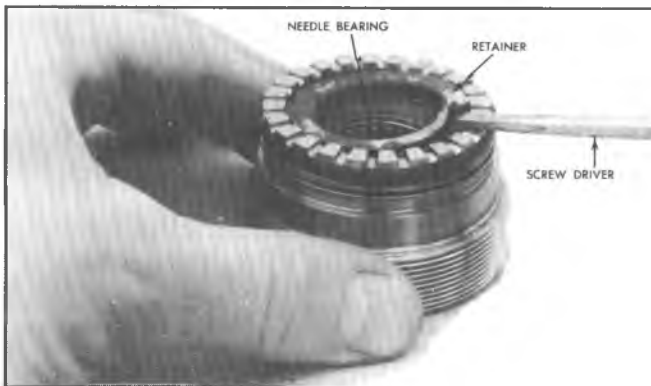

Fig. 4--Removing Retainer
2. If the thrust bearing ONLY is to be removed, pry the thrust bearing retainer at the two raised areas with a small screwdriver (Fig. 4). Remove the spacer, thrust bearing race, thrust bearing and the flanged thrust bearing race.